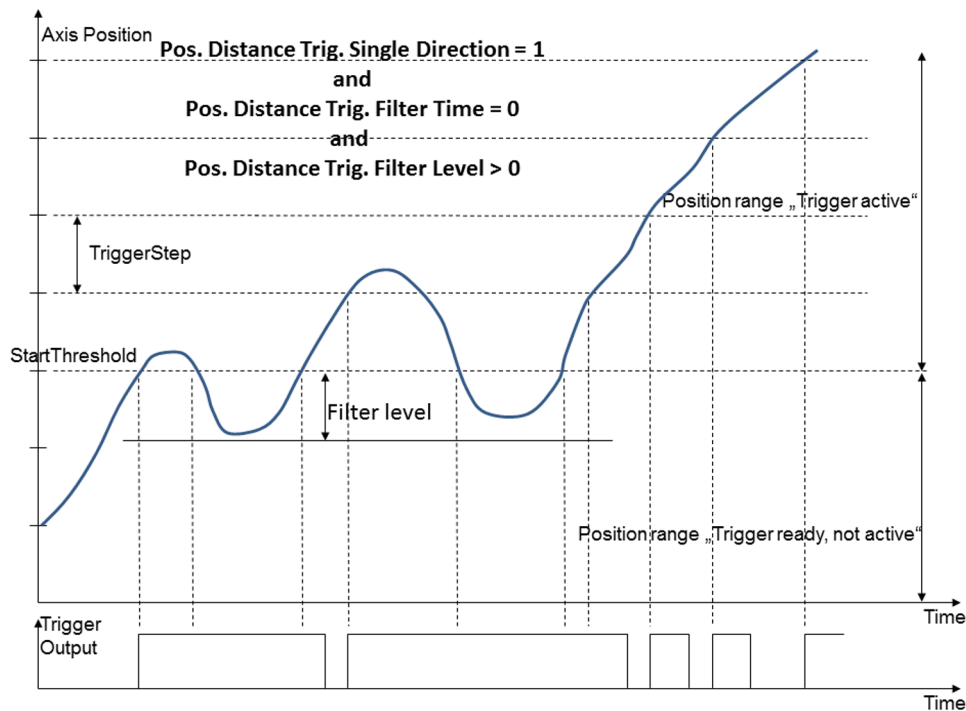

Figure 26: "Position Distance" Trigger Mode with threshold settings, with position level filter
- The **Pos. Distance Trig. Filter Level** parameter (ID 0x18000302) specifies a position level filter. The position level filter is used to delay the trigger deactivation when the axis position falls below the start threshold due to noise (Figure 26). The filter level value is given in axis units. Recommended minimum value: amplitude of the noise signal. Default value: 0 (= filter deactivated)